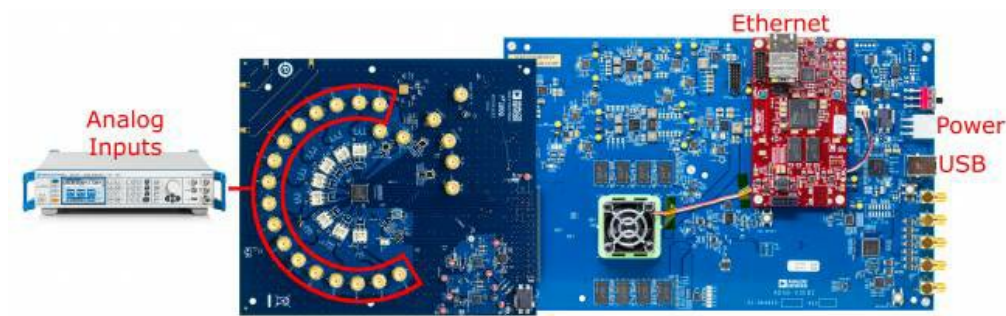
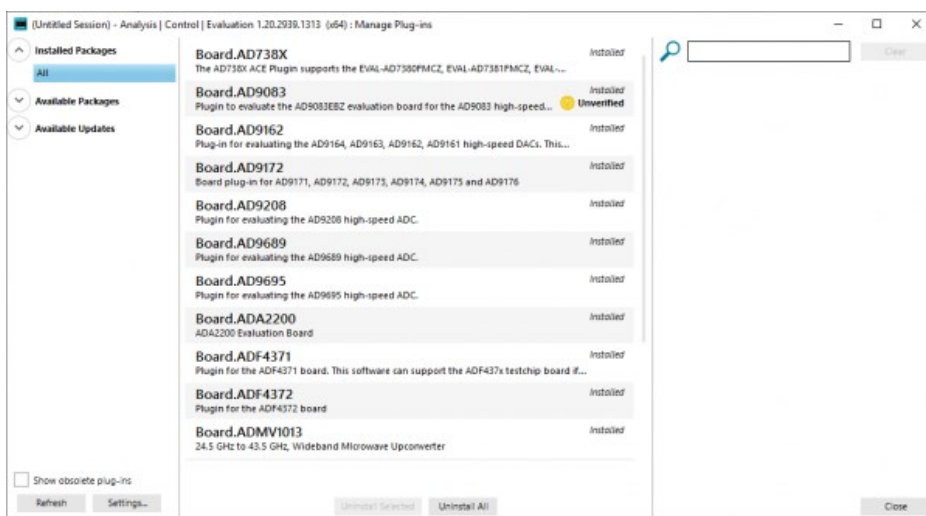

Figure 1. AD9083EBZ Evaluation Board and ADS8-V3EBZ Data Capture Board
Figure 3. ACE Manage Plug-ins Window
1. Ensure that the connections to ADS8-V3EBZ are as shown in Figure 1. It is not necessary to connect the AD9083EBZ evaluation board.
To start using the AD9083EBZ, first ensure the board is connected as shown in Figure 1. Next, ensure that the ADS8-V3EBZ board is powered on before opening ACE. When the user opens the ACE software, the plugin appears in the Attached Hardware section of the ACE GUI (see Figure 3).